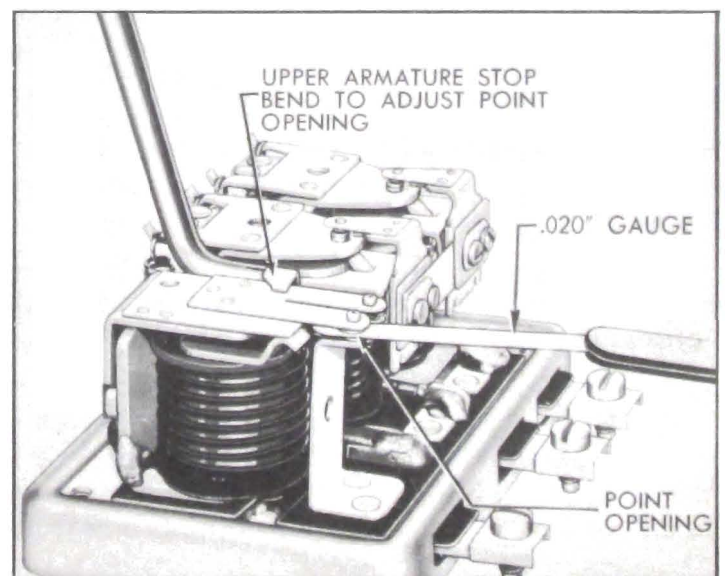

Figure 10-30—Adjustment of Cutout Relay Contact Point Opening
2. Check contact point opening with feeler gauges. Opening should be .020". Increase or decrease point opening, if necessary, by bending the upper armature stop. See figure 10-30.